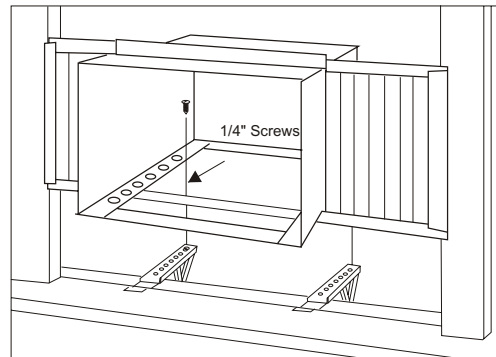

Fig. 10
A. Align one hole in the bottom of the cabinet with one hole in the bracket assembly. Secure the cabinet to the bracket using (3) 1/4" screws provided. Repeat the same procedure on the opposite side of the cabinet. See (Fig. 10).